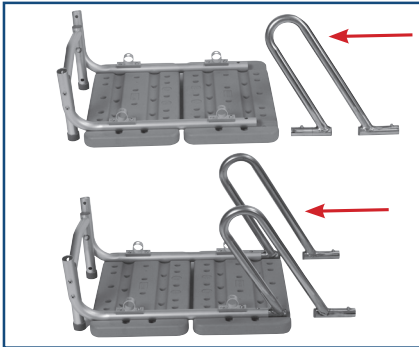

figure 1
3. Align the U-shaped bracket with the large seat board. The “U” should be facing towards the legs marked with “A”. Slide the large seat board tube into the U-bracket by depressing the push pins and inserting into the receptacles. Push pins will pop out when secure. Repeat for second U-bracket. (Figure 1)